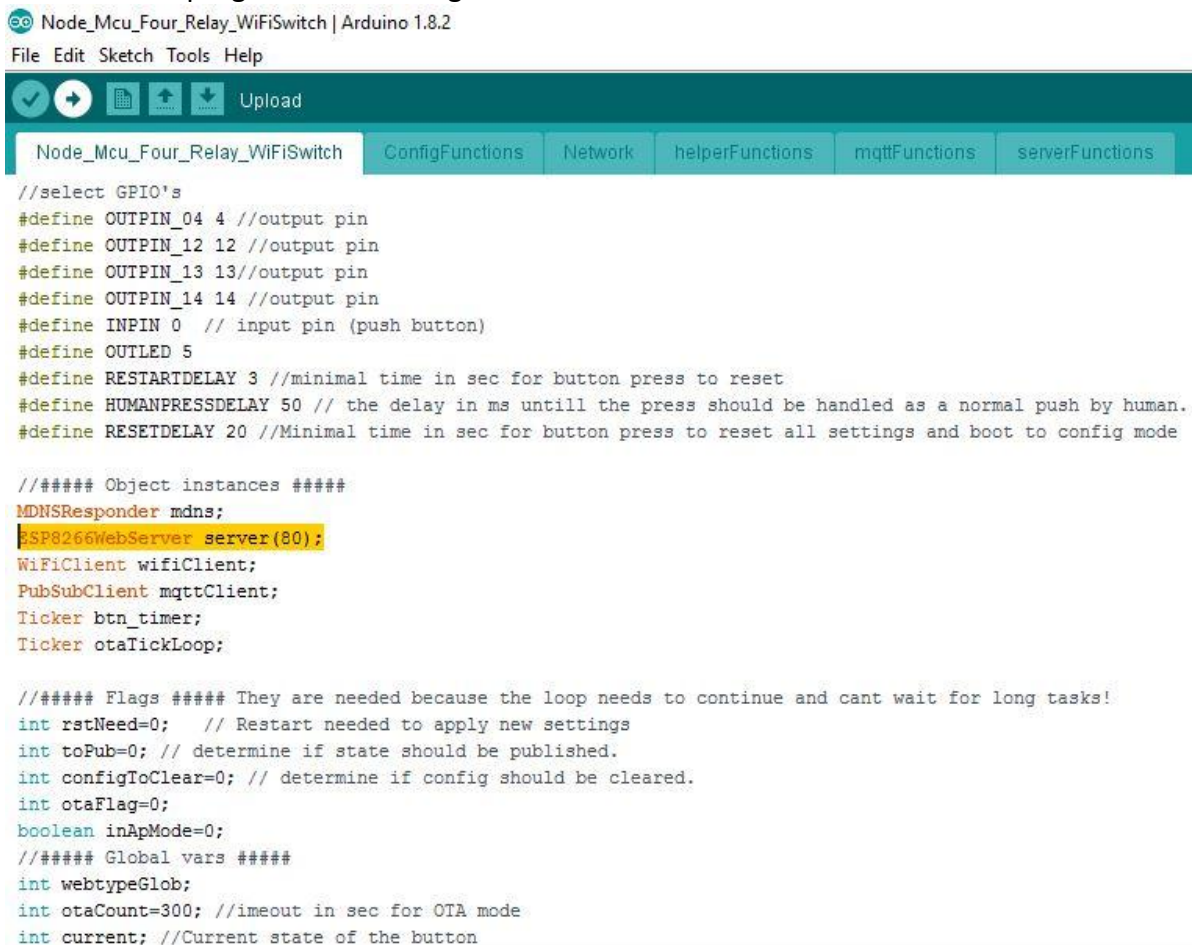

Figure 13: Executing code
12. Run the program. Refer to Figure 13.